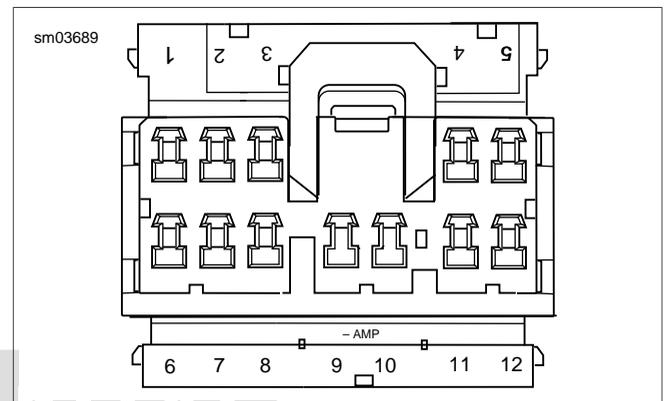

Figure 8-74. Socket Housing (Secondary Locks Open)
6. Remove the appropriate terminals from the socket and/or pin housings. Follow the wires of the faulty switch or reference Table 8-14 for the applicable chamber numbers. For wire location purposes, numbers are stamped into the secondary locks. See Figure 8-74.
3. Refer to Table 8-14. See Figure 8-74. Install terminals into socket or pin housing.